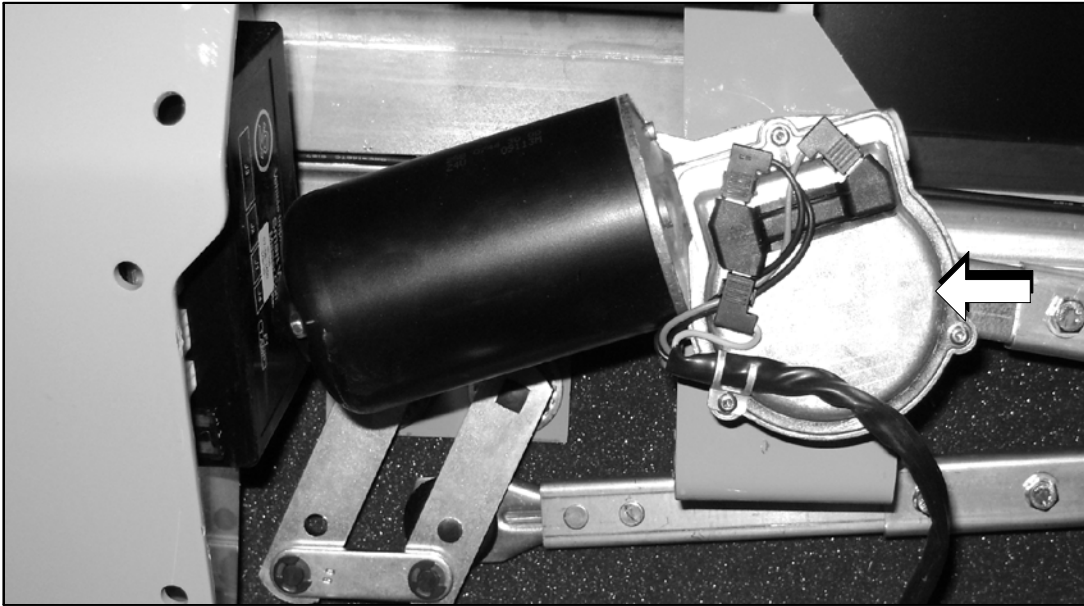

Figure 5. Windshield Wiper Motor
17. Locate the Doga windshield wiper motor on the RH (curbside) of the steering column bracket (refer to Figure 5).